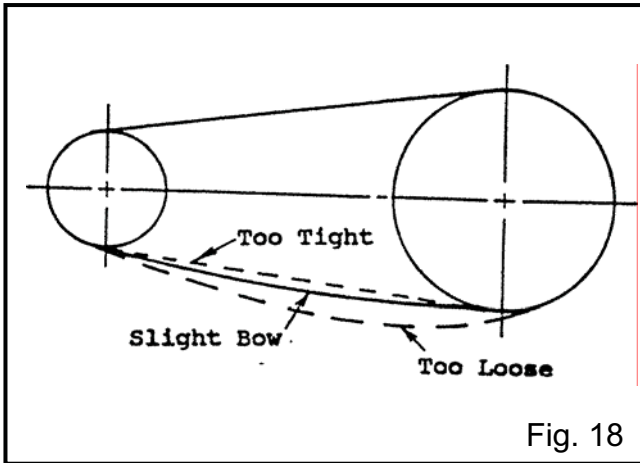

Fig. 18
STEP 1. Reduce the center distance so that the belts may be placed over the sheaves and in the grooves without forcing them over the sides of the grooves. Arrange the belts so that both belt spans have a proximately the same sag between the sheaves. Apply tension to the belts by increasing the center distance until the belts are snug, see Fig. 18.